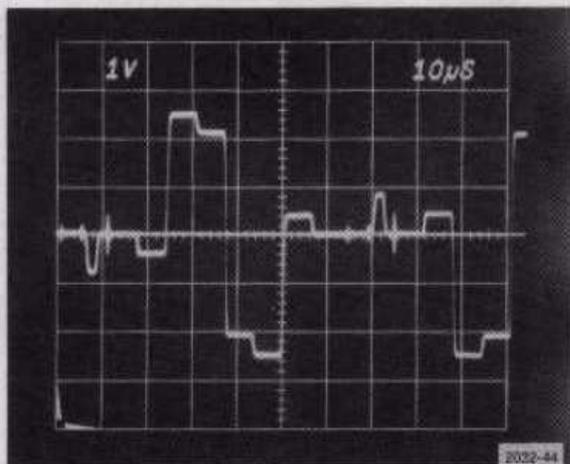

Fig. 5-33. Typical waveform at TP1919.
e. ADJUST—R1916 (V Align) until all color dots fall within 1° of the R-Y (V) axis graticule line.
f. Set the video generator Color Bar B-Y (U) switch on, and Color Bar R-Y (V) switch off.
g. ADJUST—R1951 (H Align) until all color dots fall within 1° of the B-Y (U) axis graticule line.
h. Set the video generator Color Bar R-Y (V) switch on.
b. ADJUST—L1821 and L1827 R-Y (V) Filter for best transient response of the demodulated R-Y (V) chrominance. See Fig. 5-33.